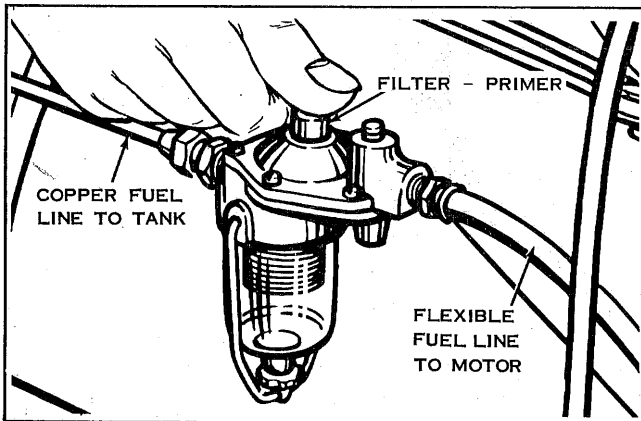

FIGURE 2
1. Install the Filter-Primer assembly as illustrated in Figure 2 and on the following pages. The Filter-Primer has a primer button (shown being depressed) to force the initial charge of fuel mixture to the carburetor. This will be sufficient to start the motor, after which the engine fuel pump will take over.